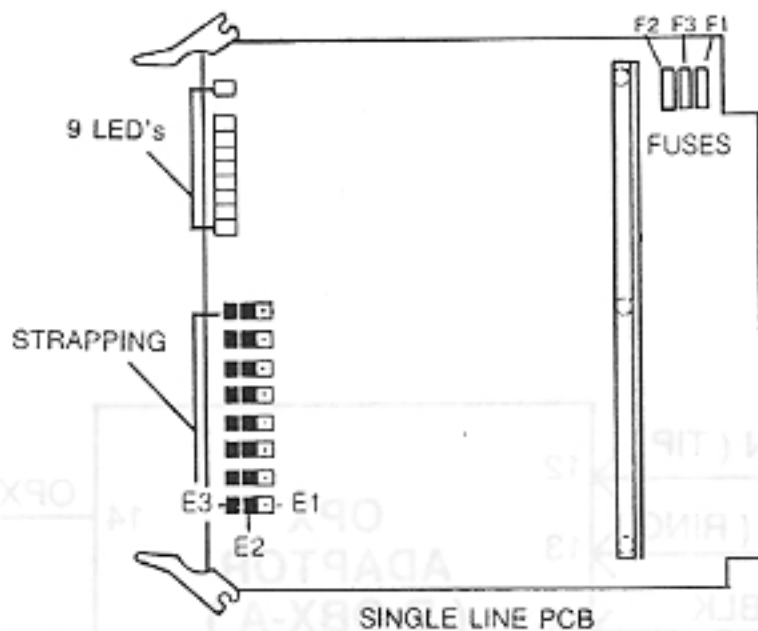

Figure 9 B-8SLU-B PCB
**4.11** One B-SLU-8 PCB is required to serve the maximum of eight extensions. The PCB must be strapped in the 2-3 position to indicate that single line telephones are used ( Figure 9 ). The SLU PCB can be inserted in any station position in the main or expansion cabinet ( if used ). However it is recommended that the PCB be inserted in a position where one 25 pair cable out of the KSU serves all 8 station ports. This prevents cross connecting two station blocks to access the 8 OPXs.